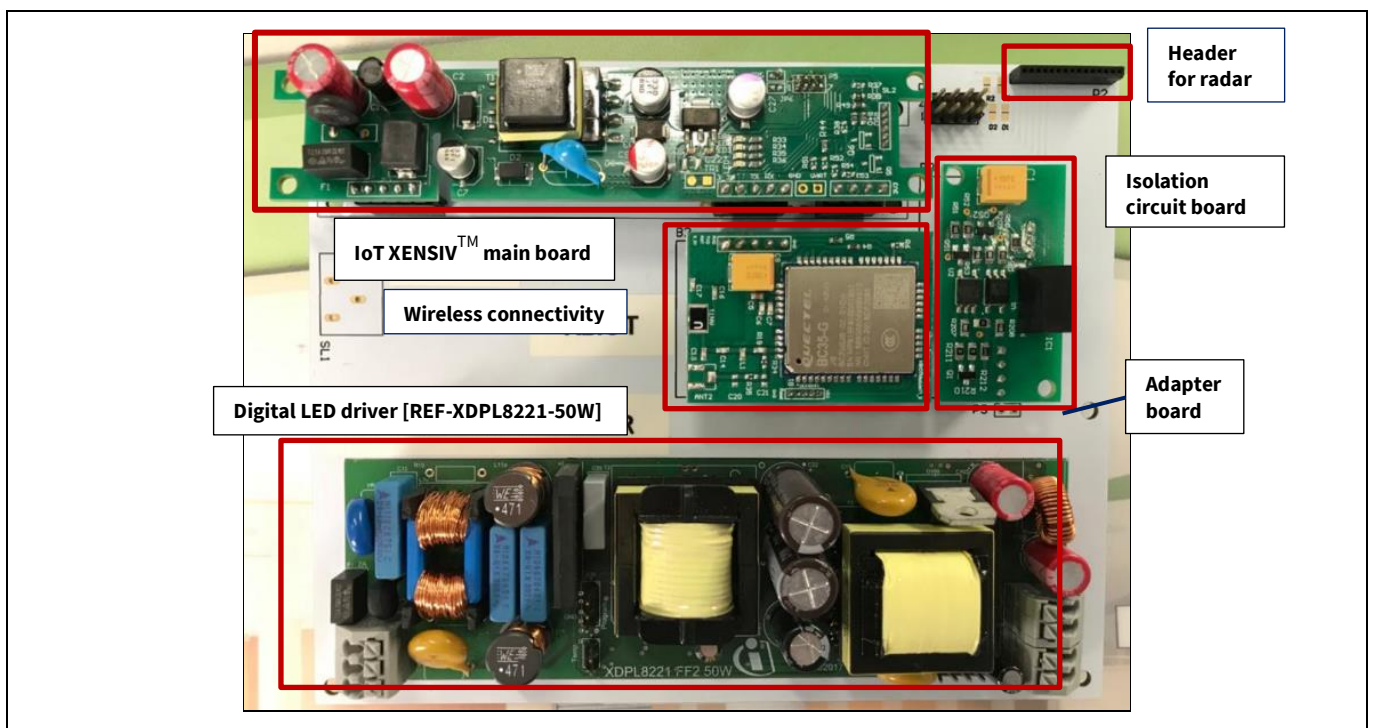

Figure 1 Adapter board of IoT XENSIV™ platform
*Note: The IoT XENSIV™ main board and wireless connectivity module are ready for evaluation. Please flash the reference program of the IoT XENSIV™ main board, connect the AC input and assemble the modules as shown in **Figure 10** for test setup. Users can use the adapter board for quick connection, as shown in **Figure 1**.*